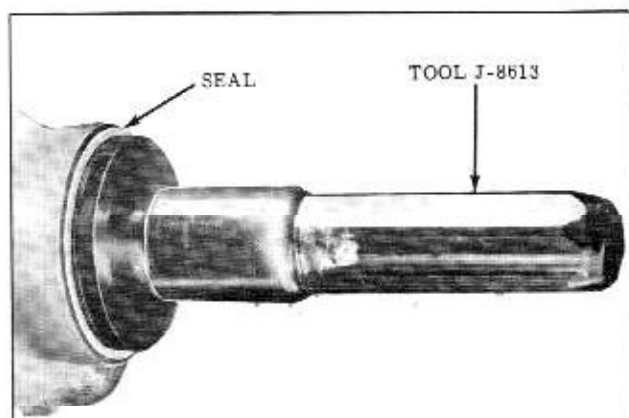

Figure 6-5 Installing Pinion Seal
2. Drive seal into housing, using Tool J-8613. (Fig. 6-5)
3. Coat outside diameter of seal with a sealer such as Permatex #2. Install seal with Tool J-8613. (Fig. 6-5)